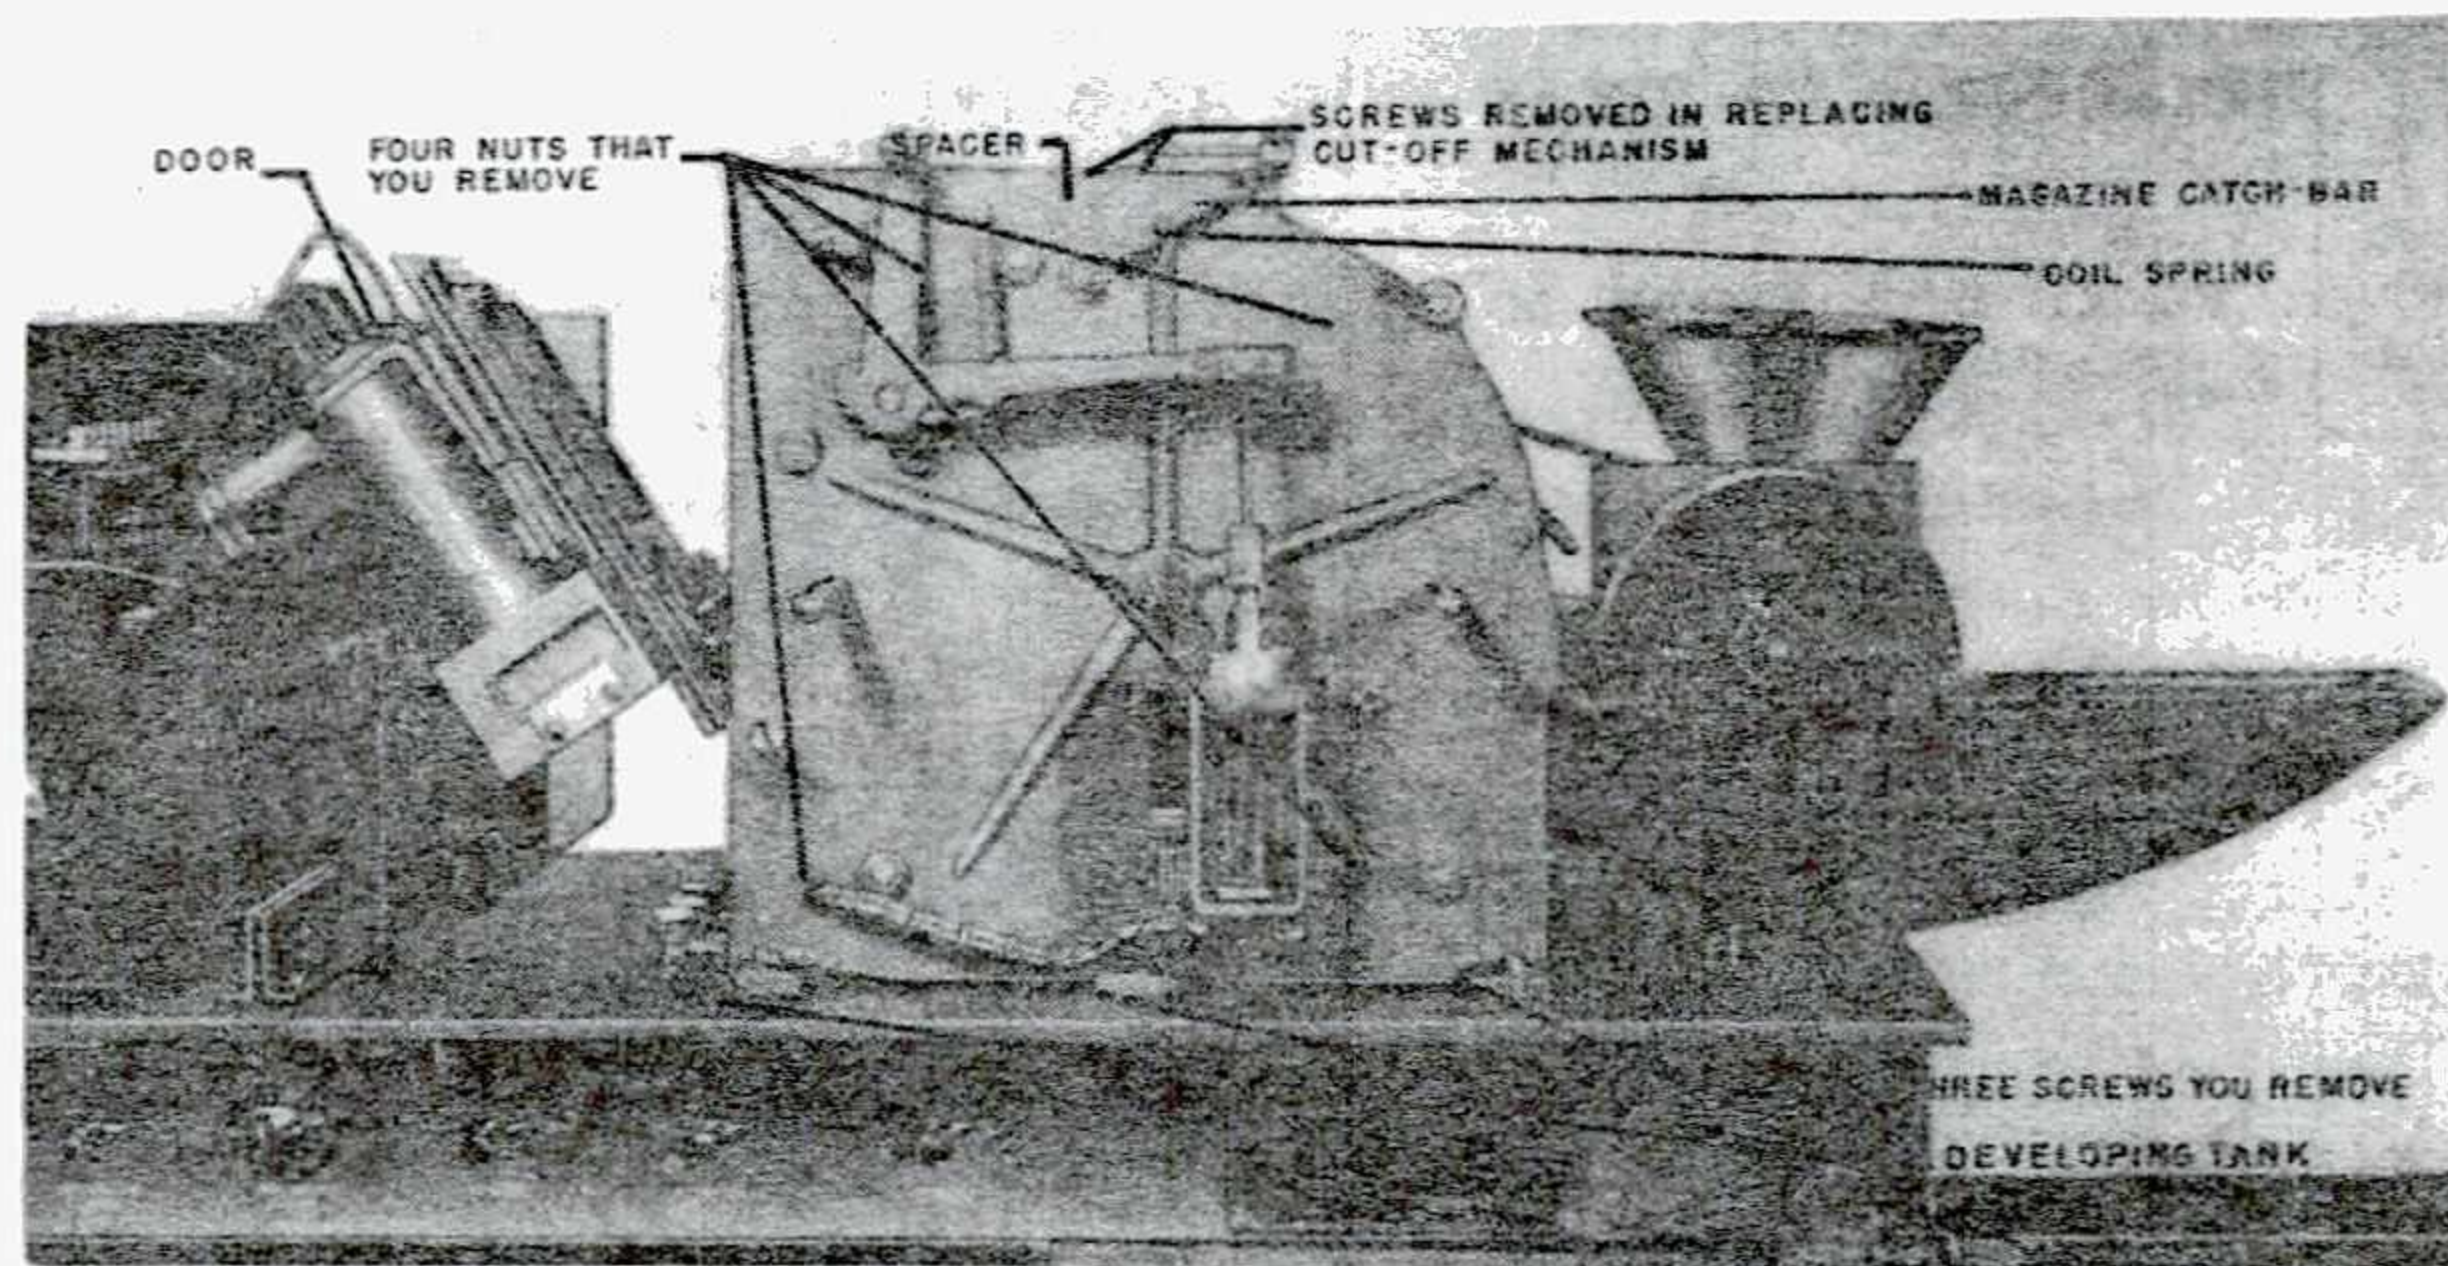

FIG. 21 OSCILLOGRAPH EQUIPMENT IE-14-(*), WITH HOUSING REMOVED TO SHOW SOLENOID AND MANUAL CUT-OFF ARM.
- (1) Remove the two small screws nearest the front on the top of the magazine guide. (Fig. 21)
(2) Remove the small spacer from between the magazine guide and the camera casting.
(3) Unhook both coil springs from ends of the magazine catch-bar.
(4) Remove the magazine catch-bar by raising the restraining pin and pulling the bar to the right.
c. Next, remove front half of camera casting: (Fig. 21)
(1) Remove the door holding the lenses, recording lamp etc., from the left side of the camera housing by unscrewing the knurled knob and removing both hinge screws. Tilt door to the left and allow barrel of identification lens to rest lightly on top of galvanometer magnet. Wires may be left connected to binding posts.
(2) Remove three screws holding front half of camera casting to the table top.
(3) Remove four nuts from front of camera casting.
(4) Very carefully pull the front half of the camera casting toward you exposing the cut-off mechanism, the developing tray and the large rubber-covered roller. Be sure that the take-off scoop on the right end of the casting remains attached to the rear half of the casting during this operation, (otherwise the springs of the scoop may be bent or may injure the rubber-covered roller).
(5) Detach the three solenoid lead wires from the binding posts, and the heater ground wire from the casting.
f. (1) Replace the magazine catch-bar by raising the restraining pin and pushing the bar to the left. Make sure that the flat side of the "V" slot in the bar is down towards the camera casting so that the "V" points upward.
(2) Hook a coil spring over each end of magazine catch-bar.
(3) Replace the small spacer in between the magazine guide and the camera casting, (Fig. 21) so that the holes line up and the lip of the spacer is on the front of the casting.
(4) Replace the two small screws on the top of the magazine guide. (Fig. 21)
g. (1) Replace the light shield, to the right of the galvanometer unit. (Fig. 21)
(2) Put on the developing-tray light-shield.
(3) Put on the housing that covers the manual cut-off arm and the solenoid.
(4) Put on the cover that goes over the entire left side of the set.